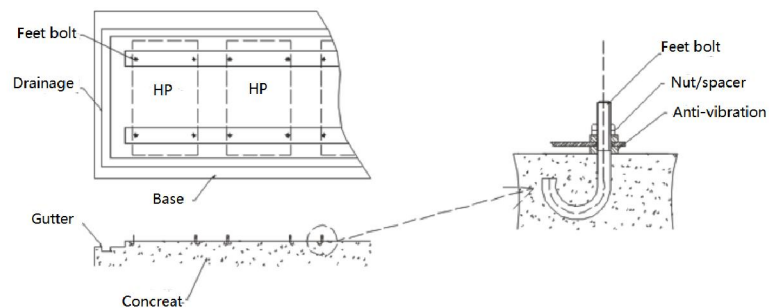
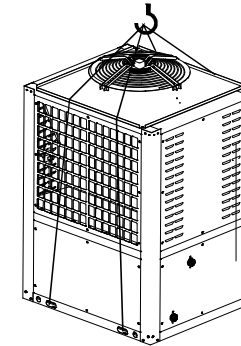

Figure 6. Schematic diagram of reserved foundation
Figure 7. Schematic diagram of hoisting
- (1) Please use more than 4 soft lifting belts to hoist the handling unit. (Refer to Figure 7)
- (2) In order to avoid scratches and deformation on the surface of the unit, please add a protect the surface of the unit during hoisting and transportation.
- (3) Before the final hoisting installation, the foundation needs to be checked again to prevent wrong with the actual object.
- (4) The unit has a lot of condensed water. Please consider installing a shock absorber between channel and the foundation around the foundation.
- When installing, each unit reserves the foundation according to the following outline drawi Figure 6)
- ◆ Do not hook the inlet and outlet pipes during transportation, only the mounting holes of the base beam can be hooked. (Refer to Figure 7)